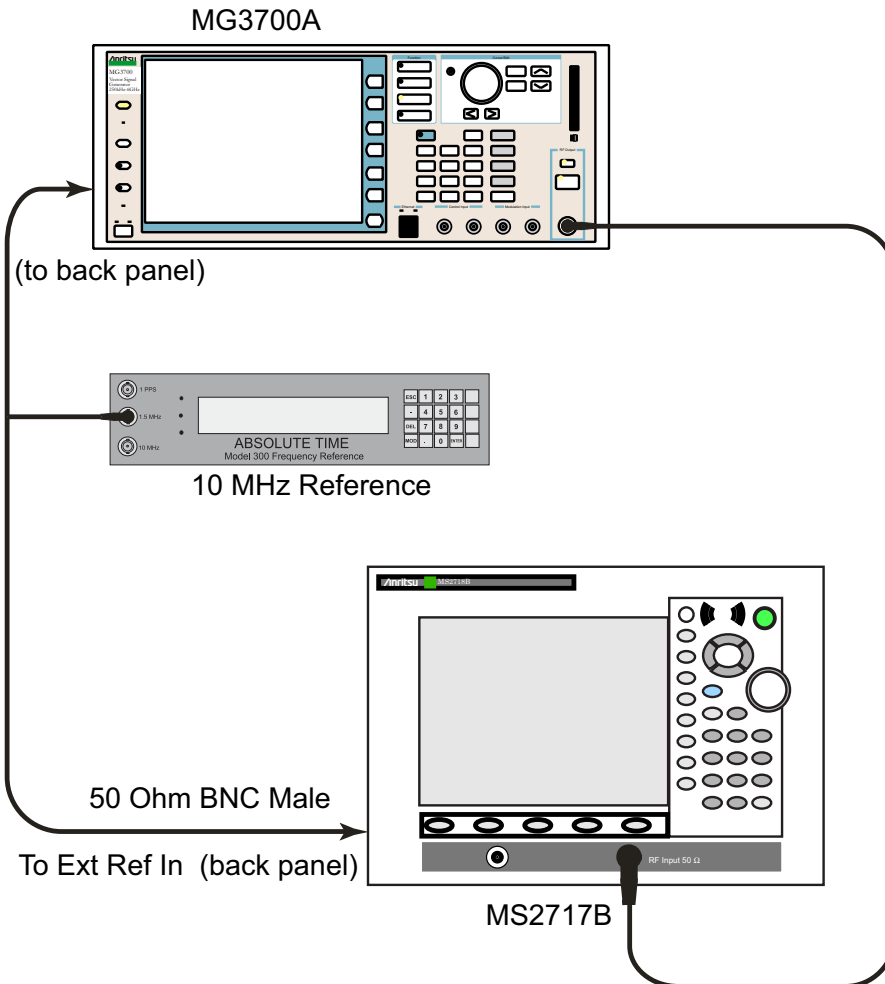

Figure 3-10. Mobile WiMAX Residual EVM and Frequency Error Test Setup
1. Connect the 10 MHz Reference to the 10 MHz/5 MHz Ref Input of the MG3700A and to the Ext Ref In of the MS2717B as shown in Figure 3-10.